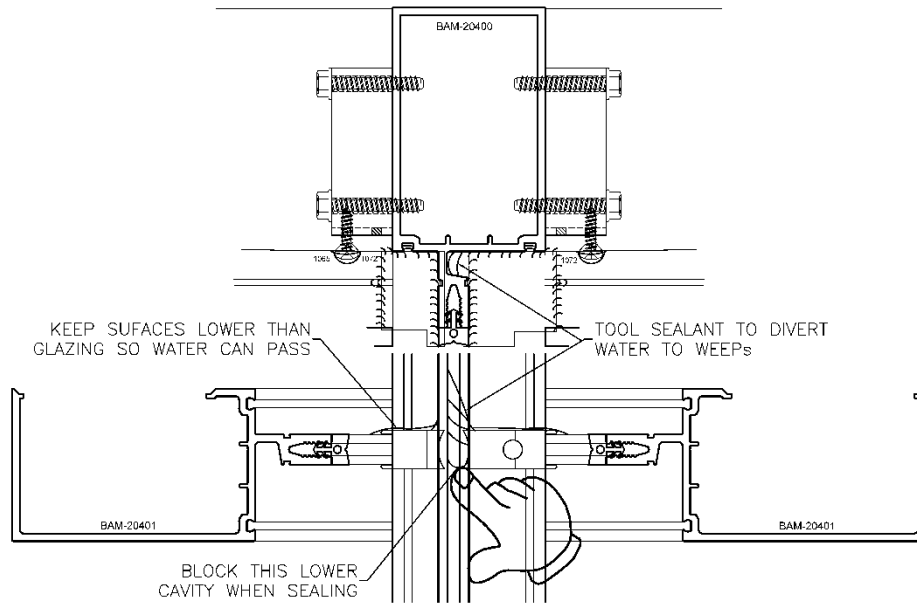

FIGURE P.1
4. Insert zone plugs. (FIGURES P.1 & Q.1)